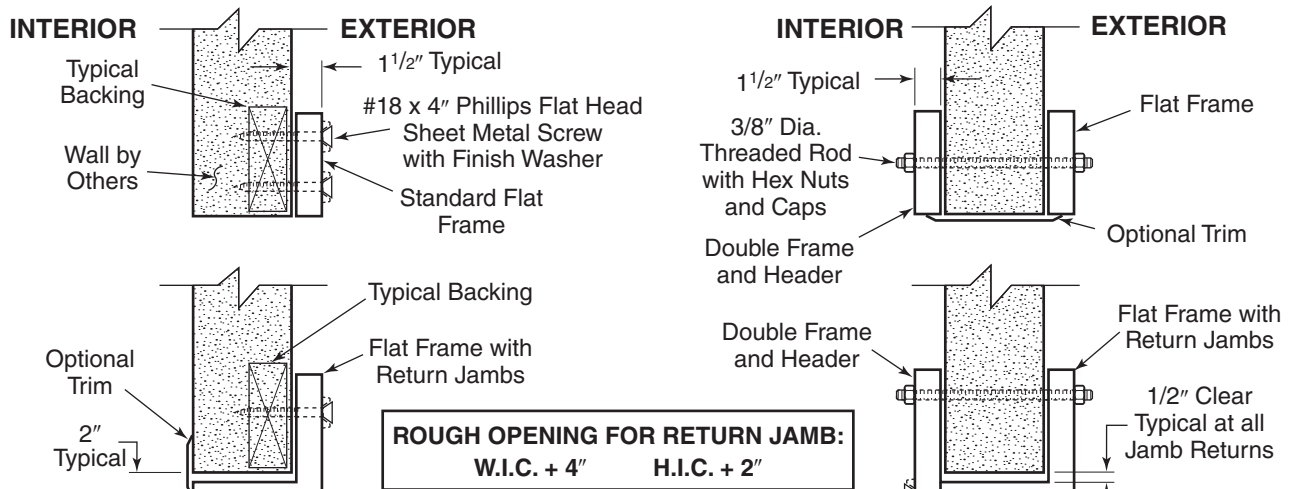

Figure 1
2. Before installing the door frame, check for proper backing in the wall. See *Figure 1*.